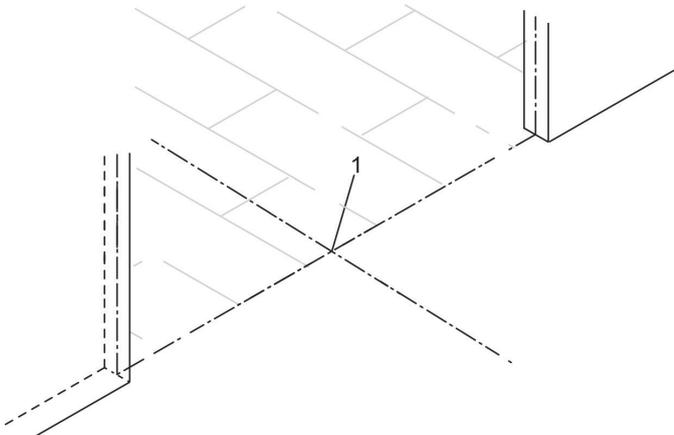

Fig. 34 Center of axis
1. Mark center of axis (Fig. 34/1) accurately on assembly surface.